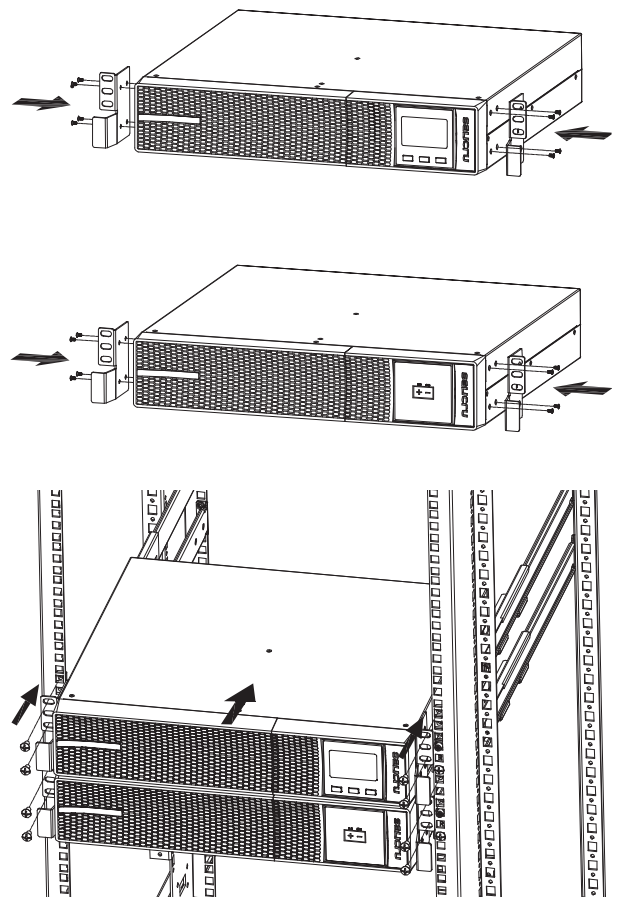

Fig. 5. Rack-type mounting in a 19" cabinet with backup extension (battery module).
- Proceed as follows (see Fig. 5):